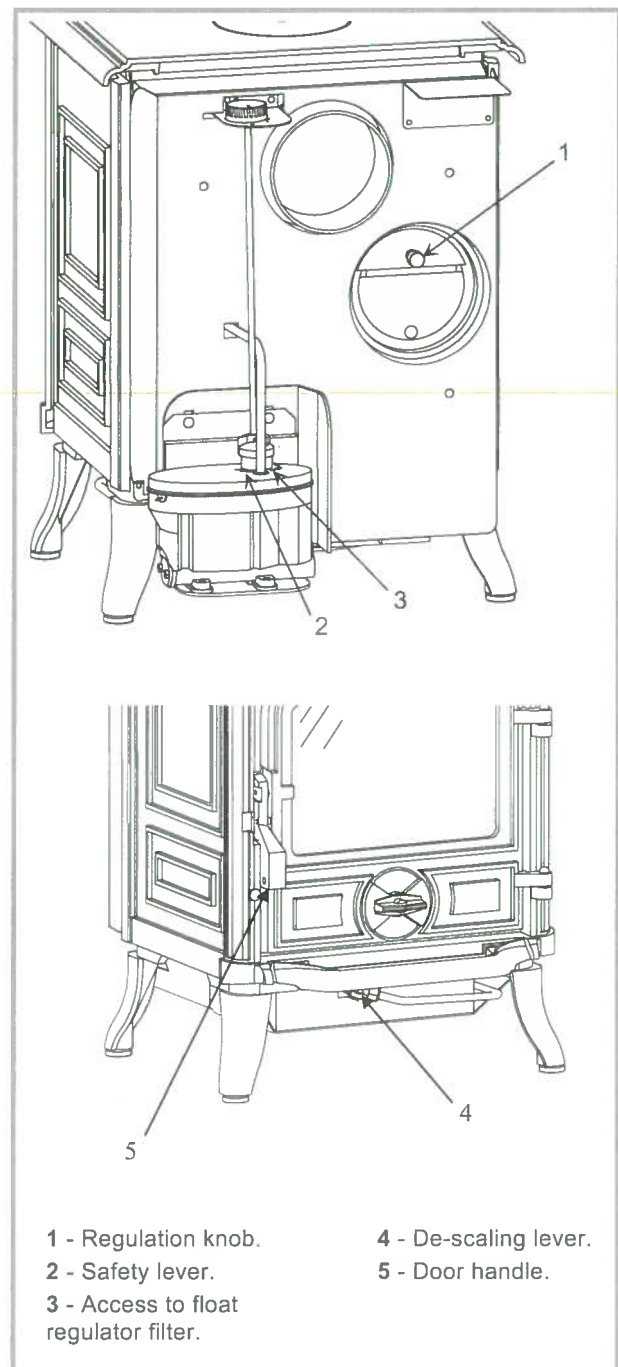

Figure 16 - Operating devices
- Be sure the control knob is to "0" (rep. 1, fig. 16).
- Push down gently on the safety lever (rep. 2, fig. 16). This will allow the oil to flow into the float regulator.
- Set dial to the "0" position (rep. 1, fig. 16).
- Raise the safety lever of the float regulator (rep. 2, fig. 16).
Every week : operate the de scaling lever (rep. 4, fig. 16, p.9).
- set the regulation knob in closed position "0" (rep. 1, fig. 16, p.9),
- raise the safety lever of the float regulator (rep. 2, fig. 16),
- remove the filter cover plate located under the float regulator (rep. 3, fig. 16) with a screwdriver,
- turn off oil supply and set the control knob in closed position "0" (rep. 1, fig. 16, p. 8).